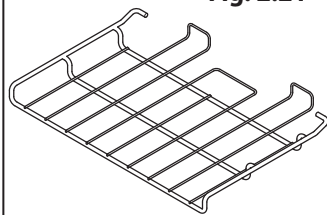

Fig. 2.22
- 1 telescopic shelf with runners (**Fig. 2.22**)